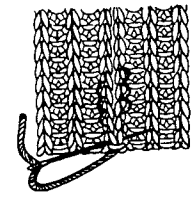

Fig. 84
b) With the 3 needle transfer tool, transfer all stitches inward onto the empty needle. (See Fig. 84)